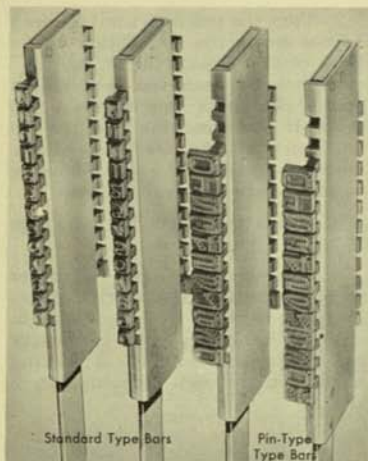

Figure 16. Standard and Pin-type Type Bars
Type Bar, Standard (550-551) (Figure 16)
Type Bar, Pin Type (551) (Figure 16)
Type Bars (Figure 16)